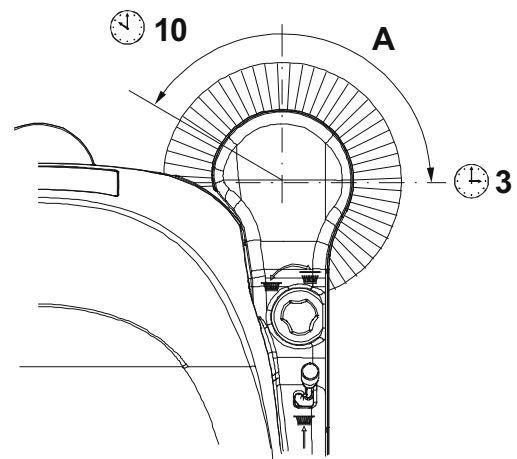

Figure 1
- Turn off the side broom by pressing the switch (1), then lift it and move the machine.
- Check that the side broom print is as shown in the figure (A, Fig. 1): the side broom must touch the ground along a circle arc ranging from "10 o'clock" position to "3 o'clock" position.
2. Turn the knob (13) clockwise and counter-clockwise to adjust the broom height.